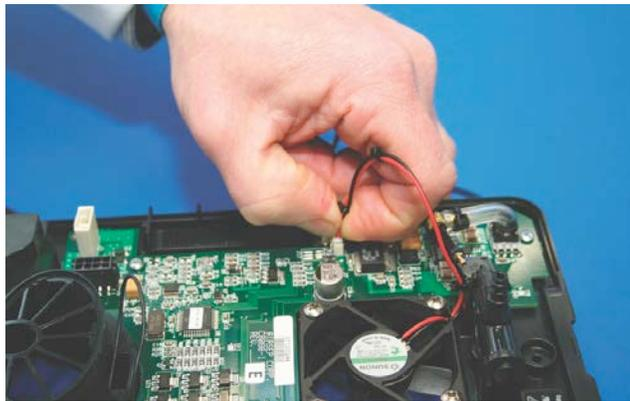

Figure 5.47
3. Disconnect the Molex connector from the circuit board to the fan. (Figure 5.47)